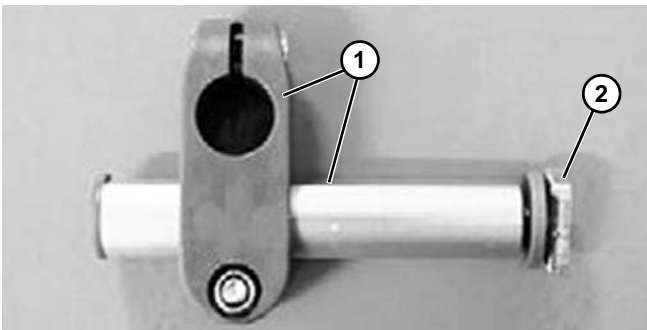

Figure 80
- Fasten an adjustable guide rail bracket support (**Figure 80, item 1**) to the conveyor beam using T-bolt (**Figure 80, item 2**).